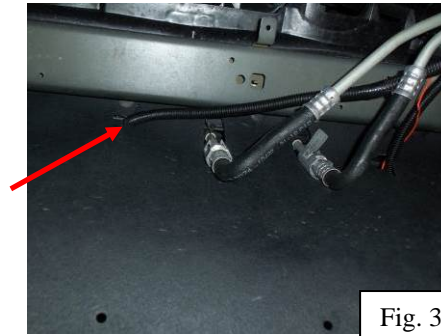

Fig. 32
24. Route the fan leads through the center hole in the rubber air deflector (Fig. 32). Connect the weatherpack plugs from the harness to the ones on the fans. The order does not matter. Zip tie the wires out of the way (Fig. 33).